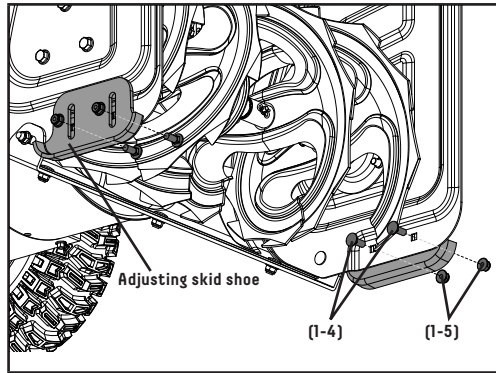

Figure 2
3. Attach adjustable skid shoes to auger housing. Insert bolts (1-4) through the auger housing then through the shoe (Fig. 2). Tighten nuts (1-5) tightly (Fig. 2). Do not overtighten. The shoe is not reversible. See "Adjusting the Snow Shoes" section.